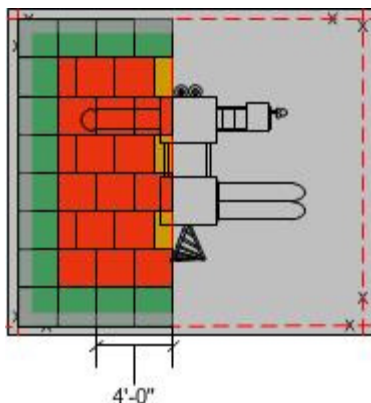

Fig. 11
- Work off the previously laid tiles and continue placing additional tiles in place from the top to the bottom (Fig. 11).